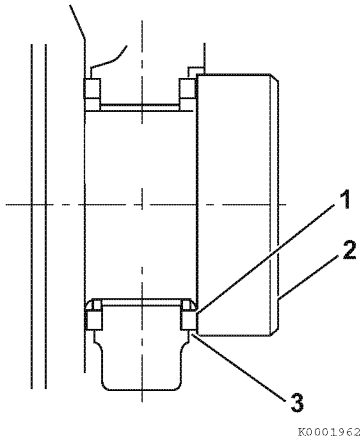

Figure 6-58
- **Method B:** Use a feeler gauge to measure the clearance (**Figure 6-58, (3)**) between the thrust bearing (**Figure 6-58, (1)**) and crankshaft (**Figure 6-58, (2)**). Record the measurement. See *Thrust Bearing* on page 6-9 for the service limit.